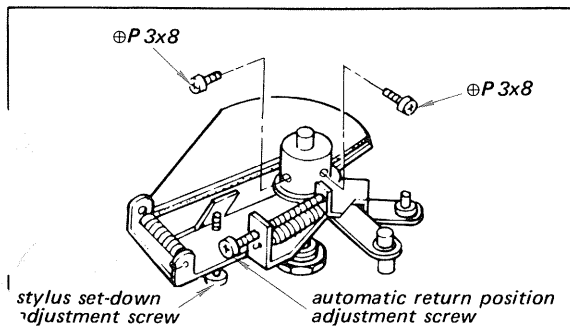

Fig. 2-12. Tone-arm lever and tone-arm ass'y removal
8. Remove the tone-arm lever assembly by loosening the two set screws ( $\oplus$ P 3x8) securing it to the tone-arm shaft as shown in Fig. 2-12.